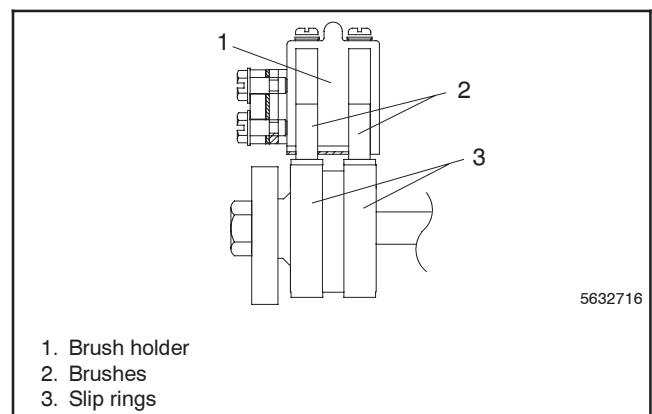

Figure 7-17 Brush Positioning
- b. Verify that the brushes are centered on the slip rings. If required, insert spacers between the mounting surface and brush holder to center the brushes on the slip rings. See Figure 7-17. See Section 6.6, Brushes, for more information.